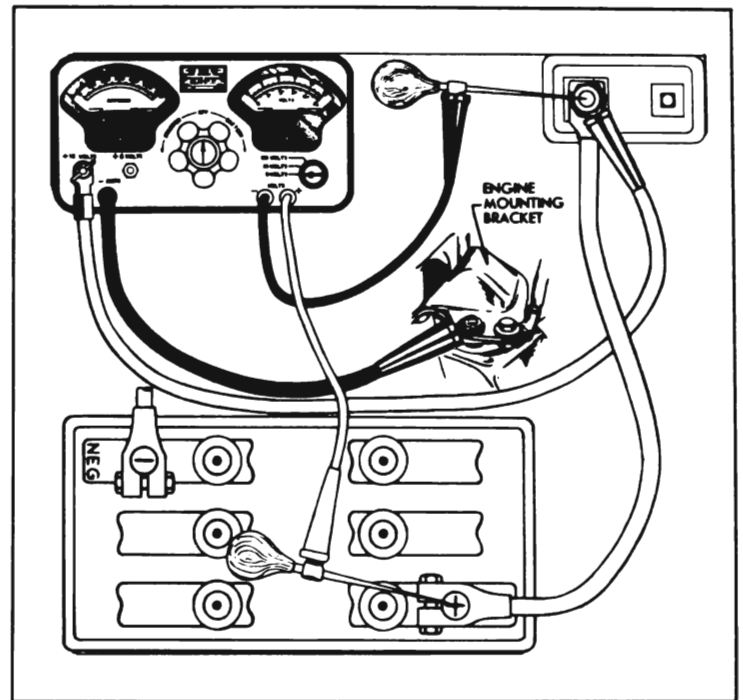

Figure 10-4—Battery Cable Test Connections
2. Connect ammeter positive (+) lead to battery terminal stud on junction block. Connect ammeter negative (-) lead to one side of rheostat and connect other side of rheostat to ground on engine, preferably at point where battery ground strap is attached. In the instrument shown in figure 10-4 the ammeter and rheostat are connected in series inside the case.
3. Connect voltmeter negative (-) lead to battery terminal stud on junction block. Use a prod with voltmeter lead, if necessary, to insure direct contact with the terminal stud. *Do not connect to the ammeter lead clip.* Attach a prod to voltmeter positive (+) lead and apply the prod to *center* of battery positive (+) post (fig. 10-4). Make sure that clips of voltmeter leads have clean metal contact with prods.